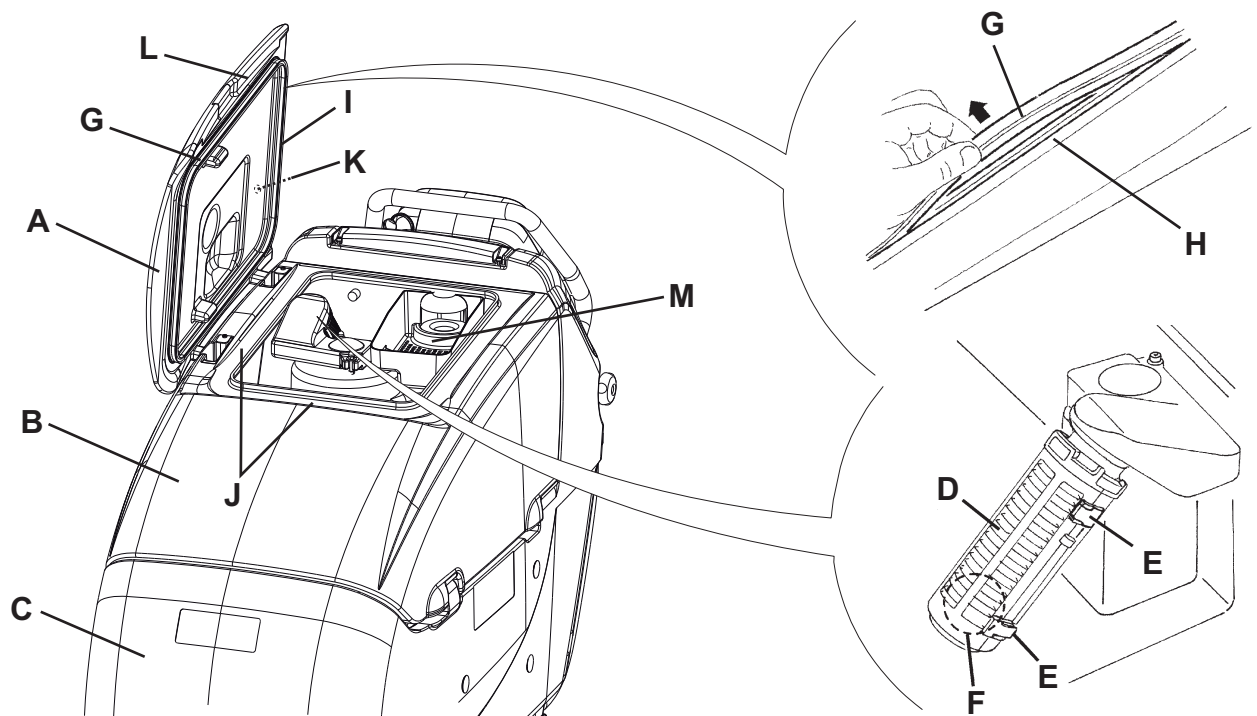

Figure 6
2. Turn the ignition key (80) to "0".
3. Open the cover (A, Fig. 6).
5. Wash with clean water the cover (A), the tanks (B and C) and the vacuum grid with automatic shut-off float (D).